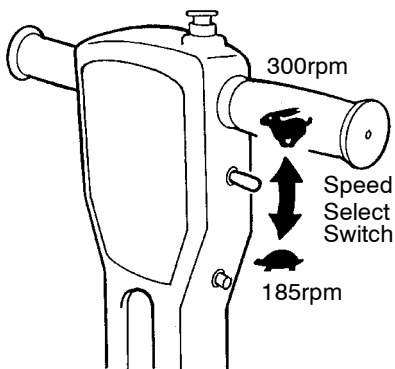

FIG. 3
2. For Dual Speed Models, select the appropriate motor speed. Position the speed select switch downward (185rpm) for scrubbing, stripping and carpet cleaning. Position the speed select switch upward (300rpm) for spray buffing (Figure 3).